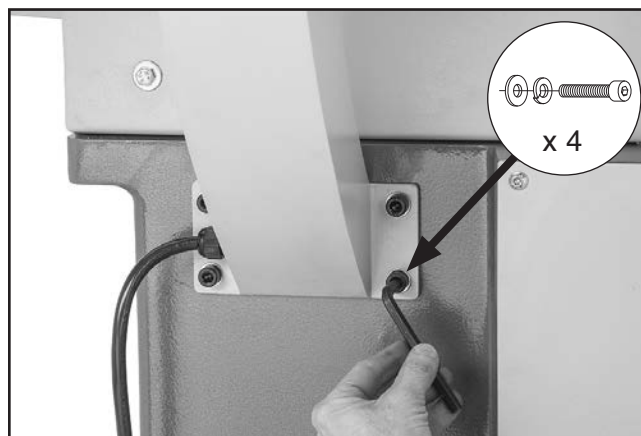

Figure 15. Securing control panel pedestal.
1. Secure control panel pedestal to jointer with (4) M10-1.5 x 30 cap screws, (4) 10mm lock washers, and (4) 10mm flat washers, as shown in **Figure 15**.